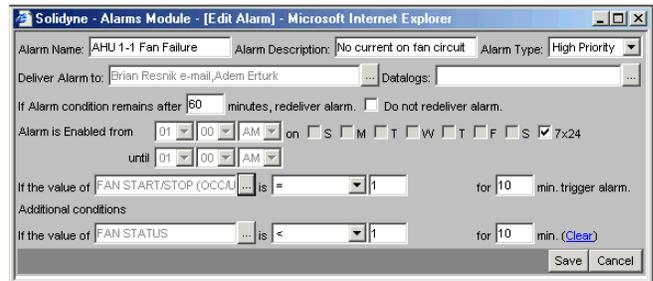

Figure 5
**Alarm conditions:** Alarm conditions can be created using any point in the system. The value can trigger an alarm based on the point being less than, greater than, equal to, between or not between a particular set value for a particular set time period. The example in Figure 5 states that the Fan Start/Stop must be equal to 1 for 10 minutes, and the Fan Status must be less than 1 for 10 minutes in order for the alarm to trip and send an email to the specified recipients.